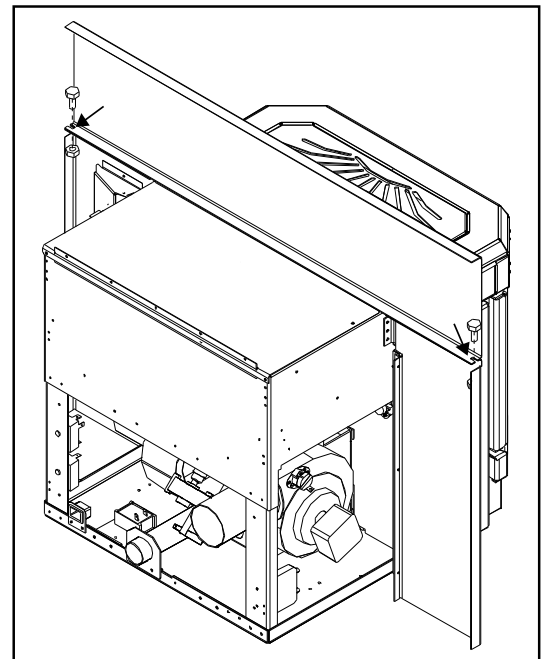

Figure 38: Assembling the Surround Panel, back view.
5. Insert each side panel anchor bolt through the top panel into the corresponding side panel holes and tighten using a  $\frac{7}{16}$ " wench or socket (refer to Figure 38).